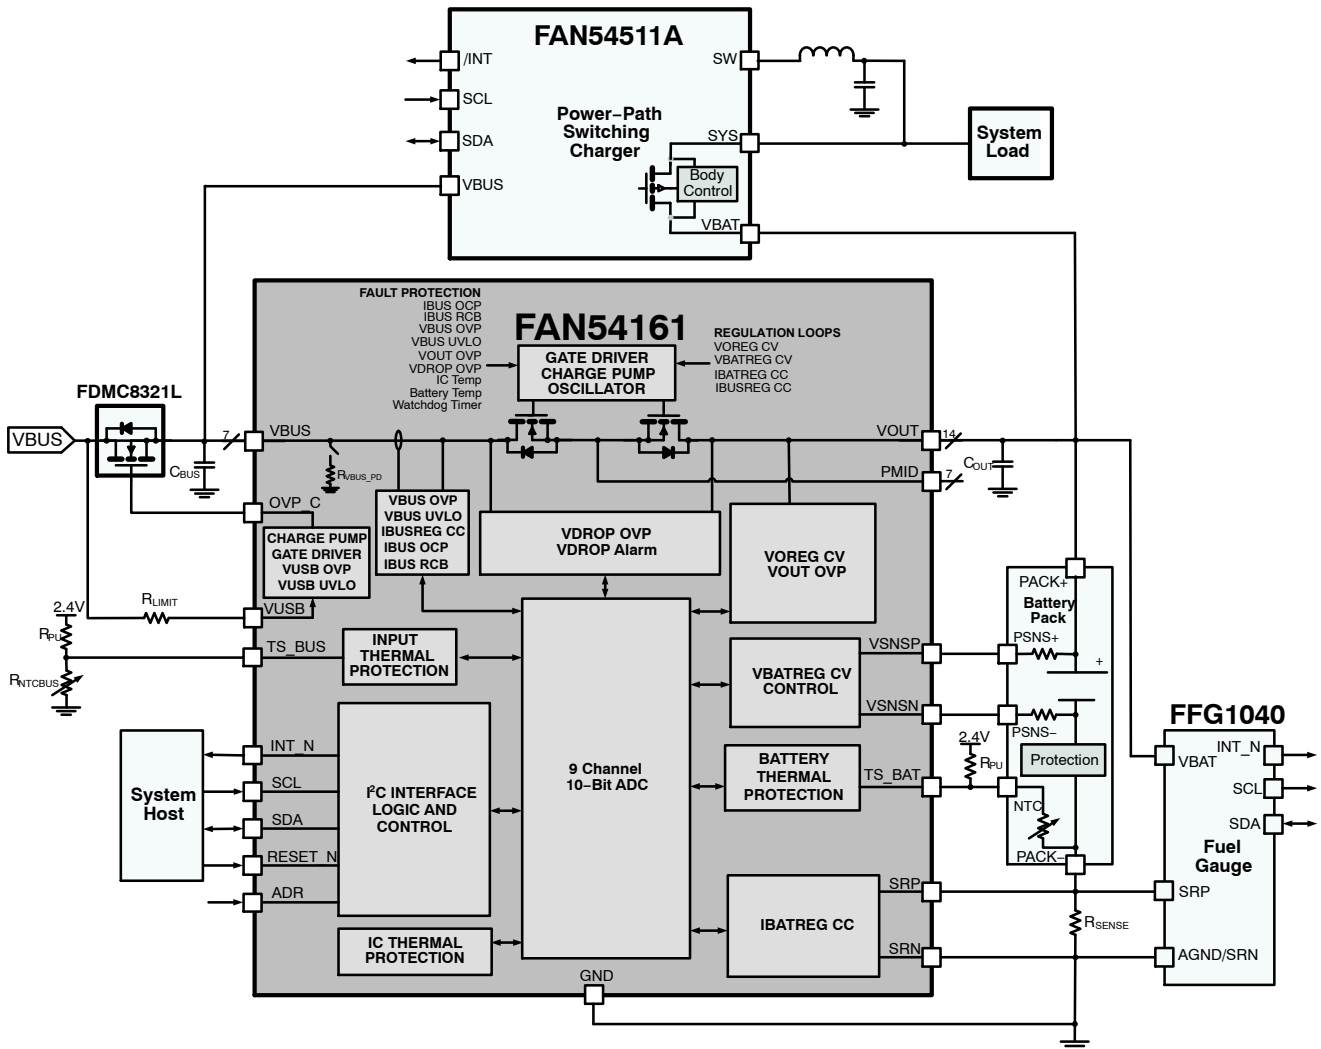

Figure 1. FAN54161, External FET, Switching Charger, Battery Pack with Exposed Cell, and External Fuel Gauge
**Table 5. ELECTRICAL CHARACTERISTICS** (Notes 4, 5, 6, 7) Unless otherwise specified: according to the circuit in Figure 1; recommended operating range for  $T_J$  and  $T_A$ ; The Recommended Operating Conditions for DC Electrical Characteristics assume  $V_{OUT} = 2.7\text{ V}$  to  $4.5\text{ V}$  and  $T_A = -40^\circ\text{C}$  to  $85^\circ\text{C}$ , unless otherwise noted. Typical values are at  $T_A = 25^\circ\text{C}$ ,  $V_{OUT} = 3.8\text{ V}$ ,  $V_{PU} = 1.8\text{ V}$ .